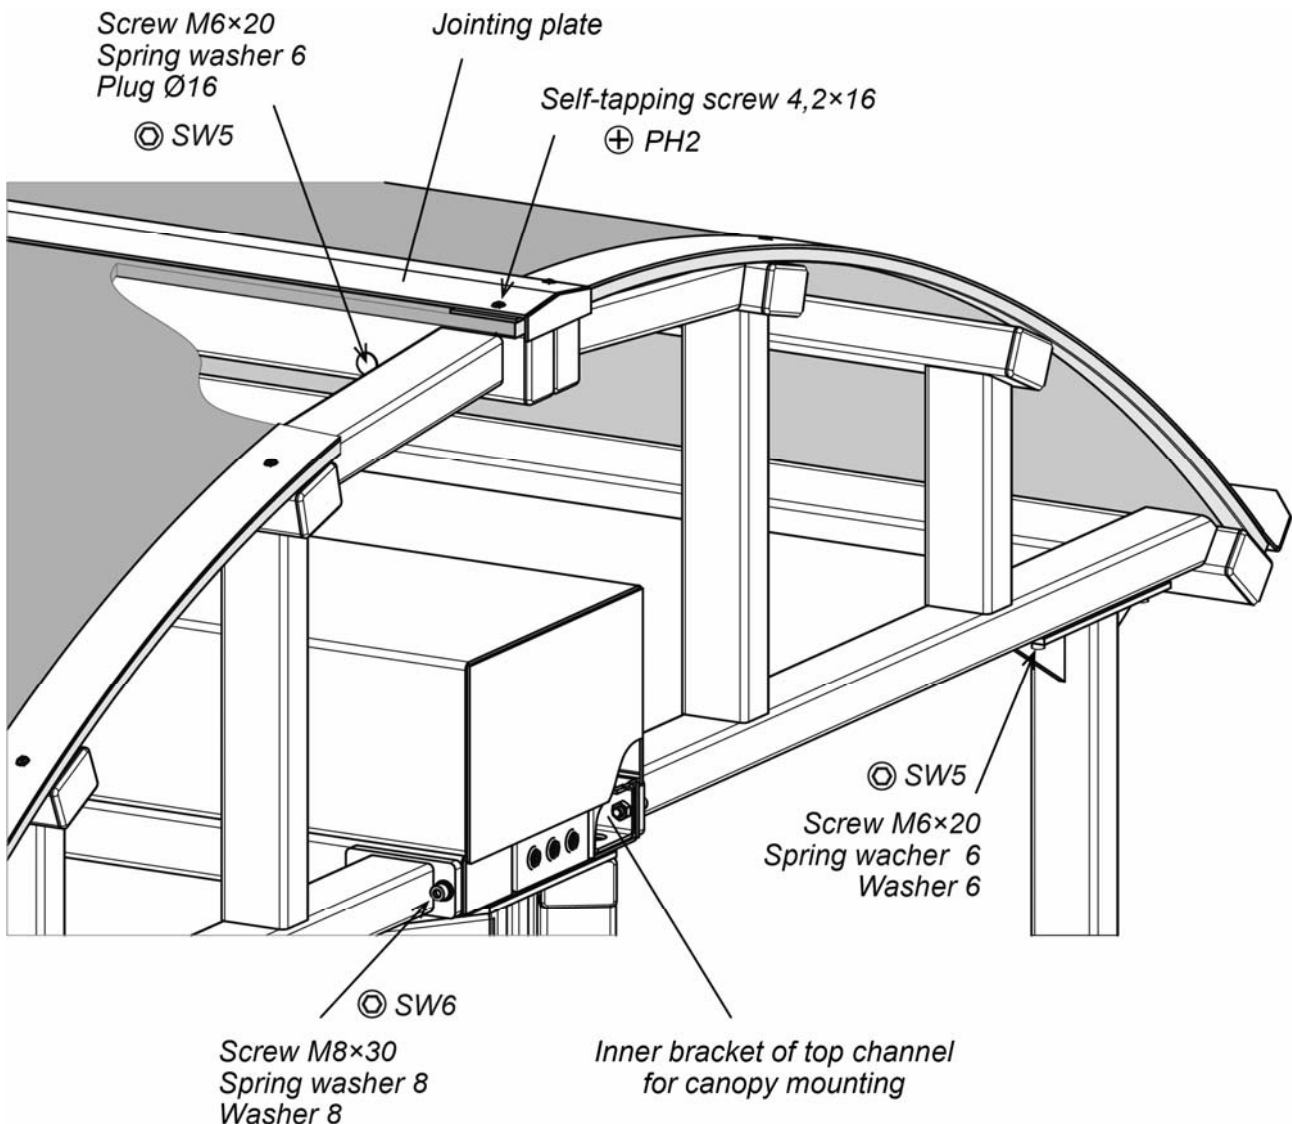

Figure 5. Juncture of the canopy to the turnstile top channel
- Install the first canopy half-frame on the upper flanges of the posts from one side of **RTD-15** turnstile, matching fixation holes with the holes in the posts. Fix the canopy half-frame with screws M6x20 with washers to each stand, wrench SW5 (see Figure 5).
- Fix canopy half-frame with four bolts M8x30 to the turnstile top channel, wrench SW6 (see Figure 5). Tightening of bolts is preliminary. It is recommended to seal the joint of flange and top channel with atmospheric silicon sealer before fixing of the bolts.